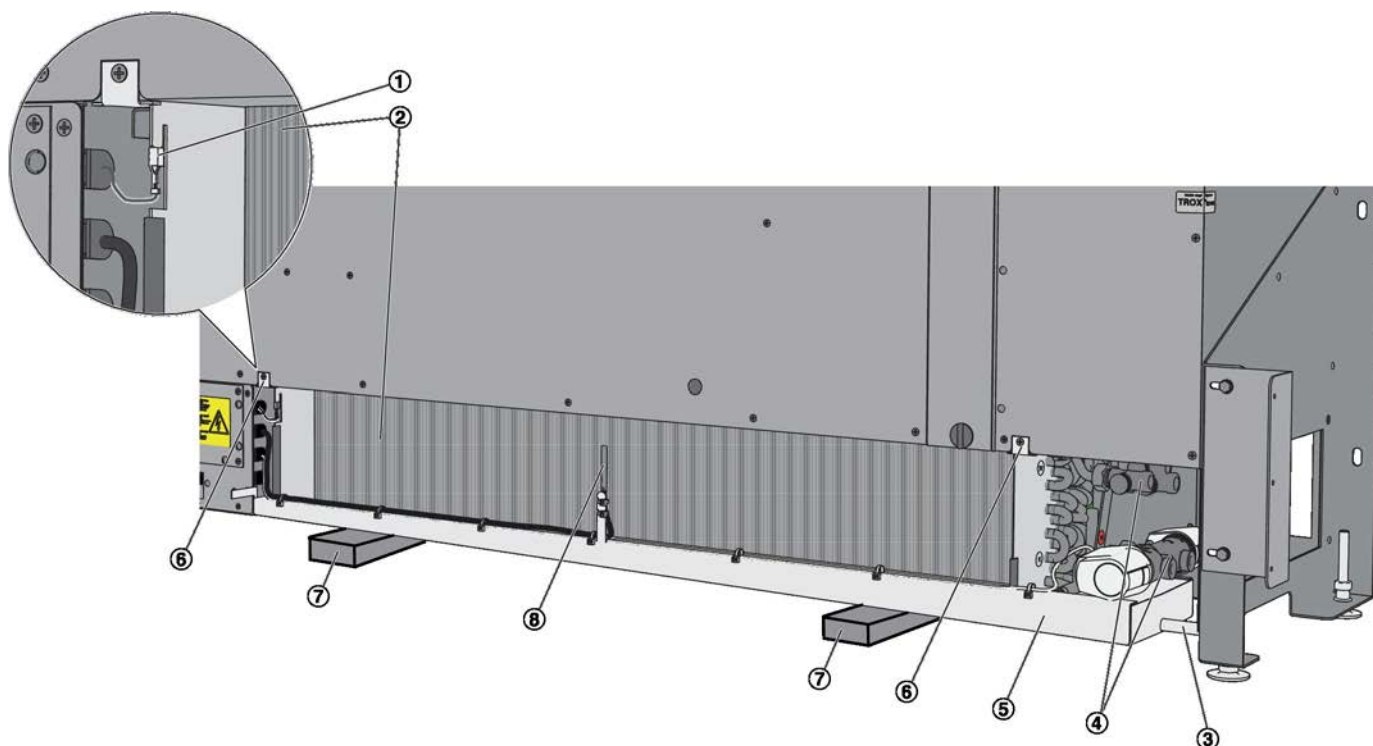

Fig. 26: Removing the heat exchanger
- ▶ Remove the protective earth conductor (Fig. 26/1) from the heat exchanger (Fig. 26/2).
- ▶ Remove the supply air temperature sensor (Fig. 26/8) and the connecting cable; cut off the cable ties to do so. Remove the cables for the fans, if any.
- ▶ Depressurise the water-side connections (Fig. 26/4) and open the screw connections on the heat exchanger.
6. ▶ To prevent the heat exchanger and the condensate drip tray (Fig. 26/5) from crashing onto the floor, support them, e.g. with two blocks of wood.(Fig. 26/7).
Loosen the two Phillips screws of the heat exchanger fixing brackets (Fig. 26/6), then carefully lower the heat exchanger with the condensate drip tray. Pull the heat exchanger and the condensate drip tray towards you and out of the casing.
8. ▶ ■ Clean the condensate drip tray (Fig. 26/5) with a commercially available cleaner or disinfectant.
■ Check that the condensate drain (Fig. 26/3) (optional) is not blocked.